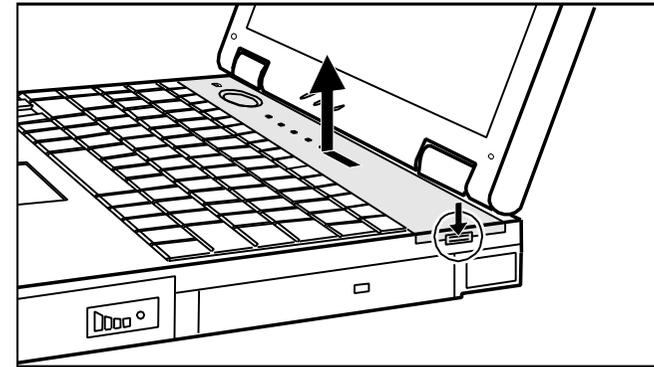

Figure 5-19. Removing the LED Panel
2. Press the locking latch downward to unlatch the LED panel and then push it leftward to remove the panel. (Refer to Figure 5-19.)
2. Replace the LED panel. (Refer to Figure 5-19 earlier.)